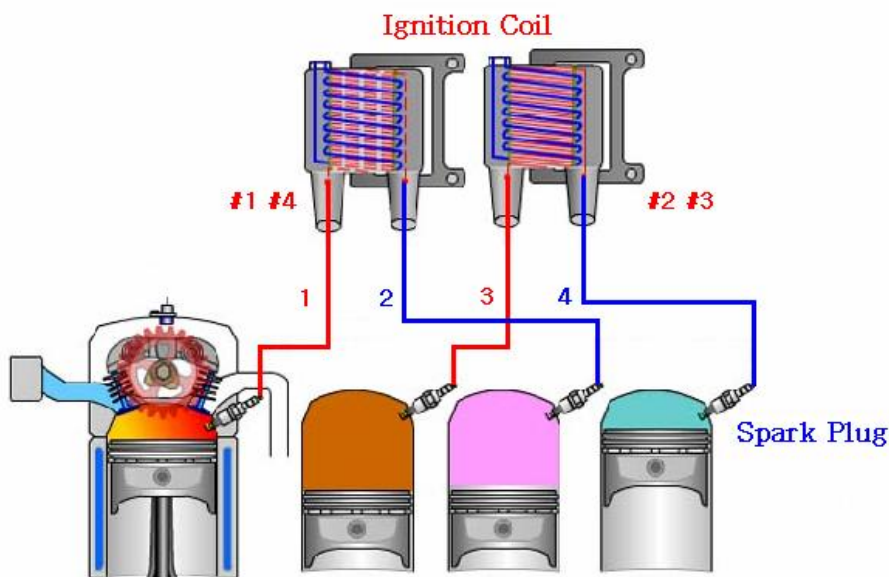

Fig. XIV-24 DLI Type
[No.1 and 3 high-tension cable of Fig. XIV-24]
[No.2 and 4 high-tension cable of Fig. XIV-24]
- If the No.1 cylinder of the vehicle you want to measure is positive, please connect trigger pick up to the high-tension cable on opposite direction of SPARK PLUG. [No.1 high-tension cable of Fig. XIV-24]